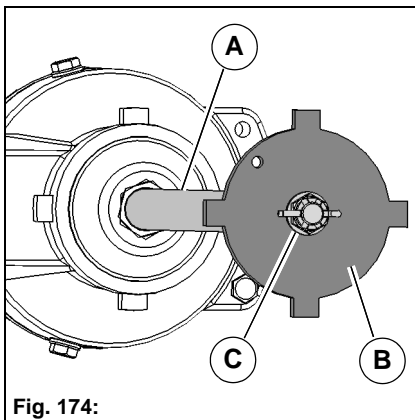

Fig. 174:
2. The sweeping rollers are fastened to the support tube **Fig. 174-A** with flange **Fig. 174-B**, and crown nut **Fig. 174-C**. Loosen the crown nuts and remove everything.